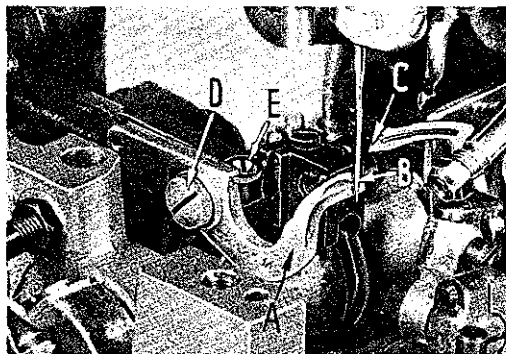

Fig. 11
Set the needle guard (A, Fig. 11) horizontally so that it barely contacts the needle (B). It should be set as low as possible, yet have its vertical face remain in contact with the needle until the point of the looper (C), moving to the left, is even with the needle and the latter is ascending on the left side. To move needle guard forward or backward, merely loosen screw (D), move needle guard as required, and retighten screw. To raise or lower needle guard, loosen screw (D), and turn screw (E) clockwise to lower needle guard, and counterclockwise to raise needle guard. Retighten screw (D) after guard is set properly.